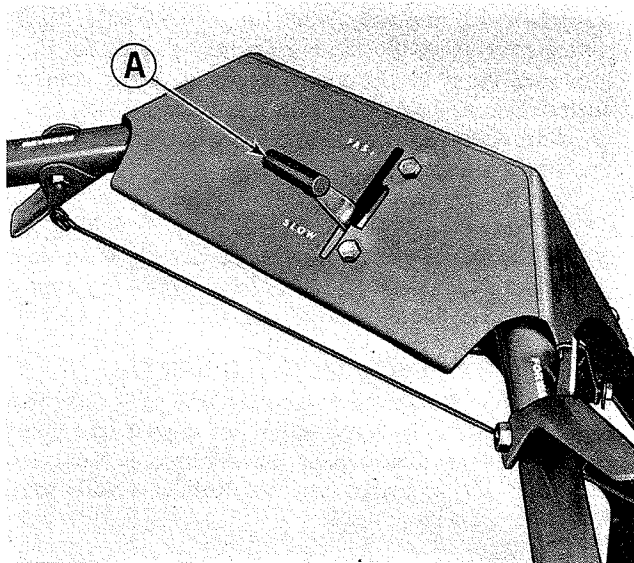

Figure 3. Roticul handles.
1. See figure 3. Place the speed control lever (A) 1/3 to 1/2 way between the slow and fast position as shown.